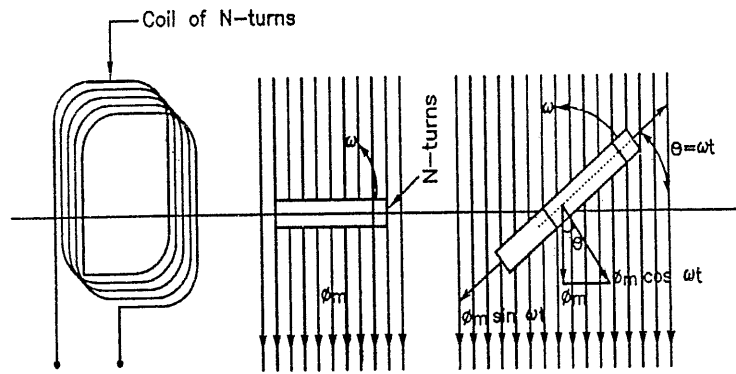

FIG. 2.11
- Consider a rectangular coil having N turns rotating in a uniform magnetic field, with angular velocity of radian/second about x-axis in its own plane as shown in Fig. 2.11.